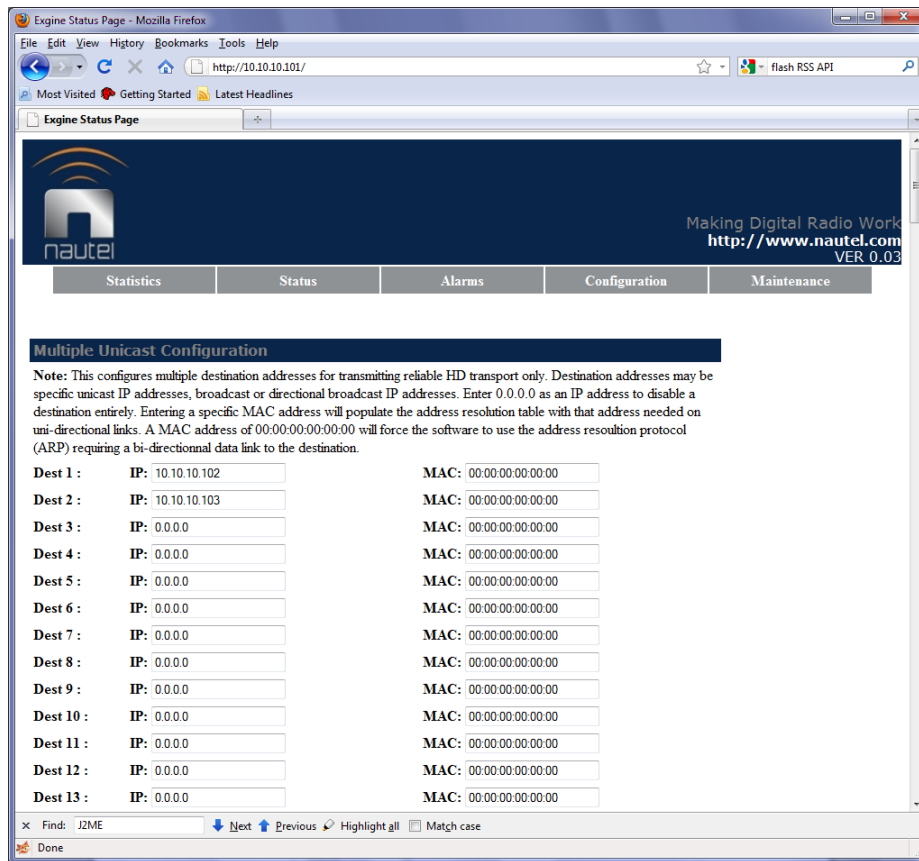

Figure 2-6: Multiple Unicast Configuration Screen
- For the studio side unit, set **Enable Timing Recovery** to 'no'. **Accept Changes** on this page and do not select reboot. Instead, click the **configure multiple unicast** link. Enter one or more destination IP addresses as shown in Figure 2-6.